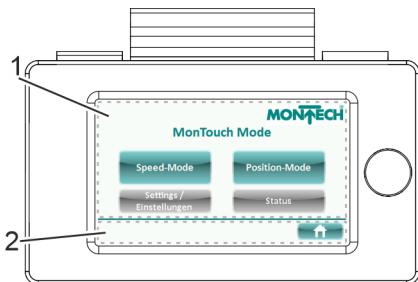

Fig. 53: MonTouch user interface
- The functional area (Fig. 53/1) contains operating elements for controlling the conveyor, technical information, and the drive status.
- The navigation area (Fig. 53/2) contains controls for navigating through the individual user interfaces.